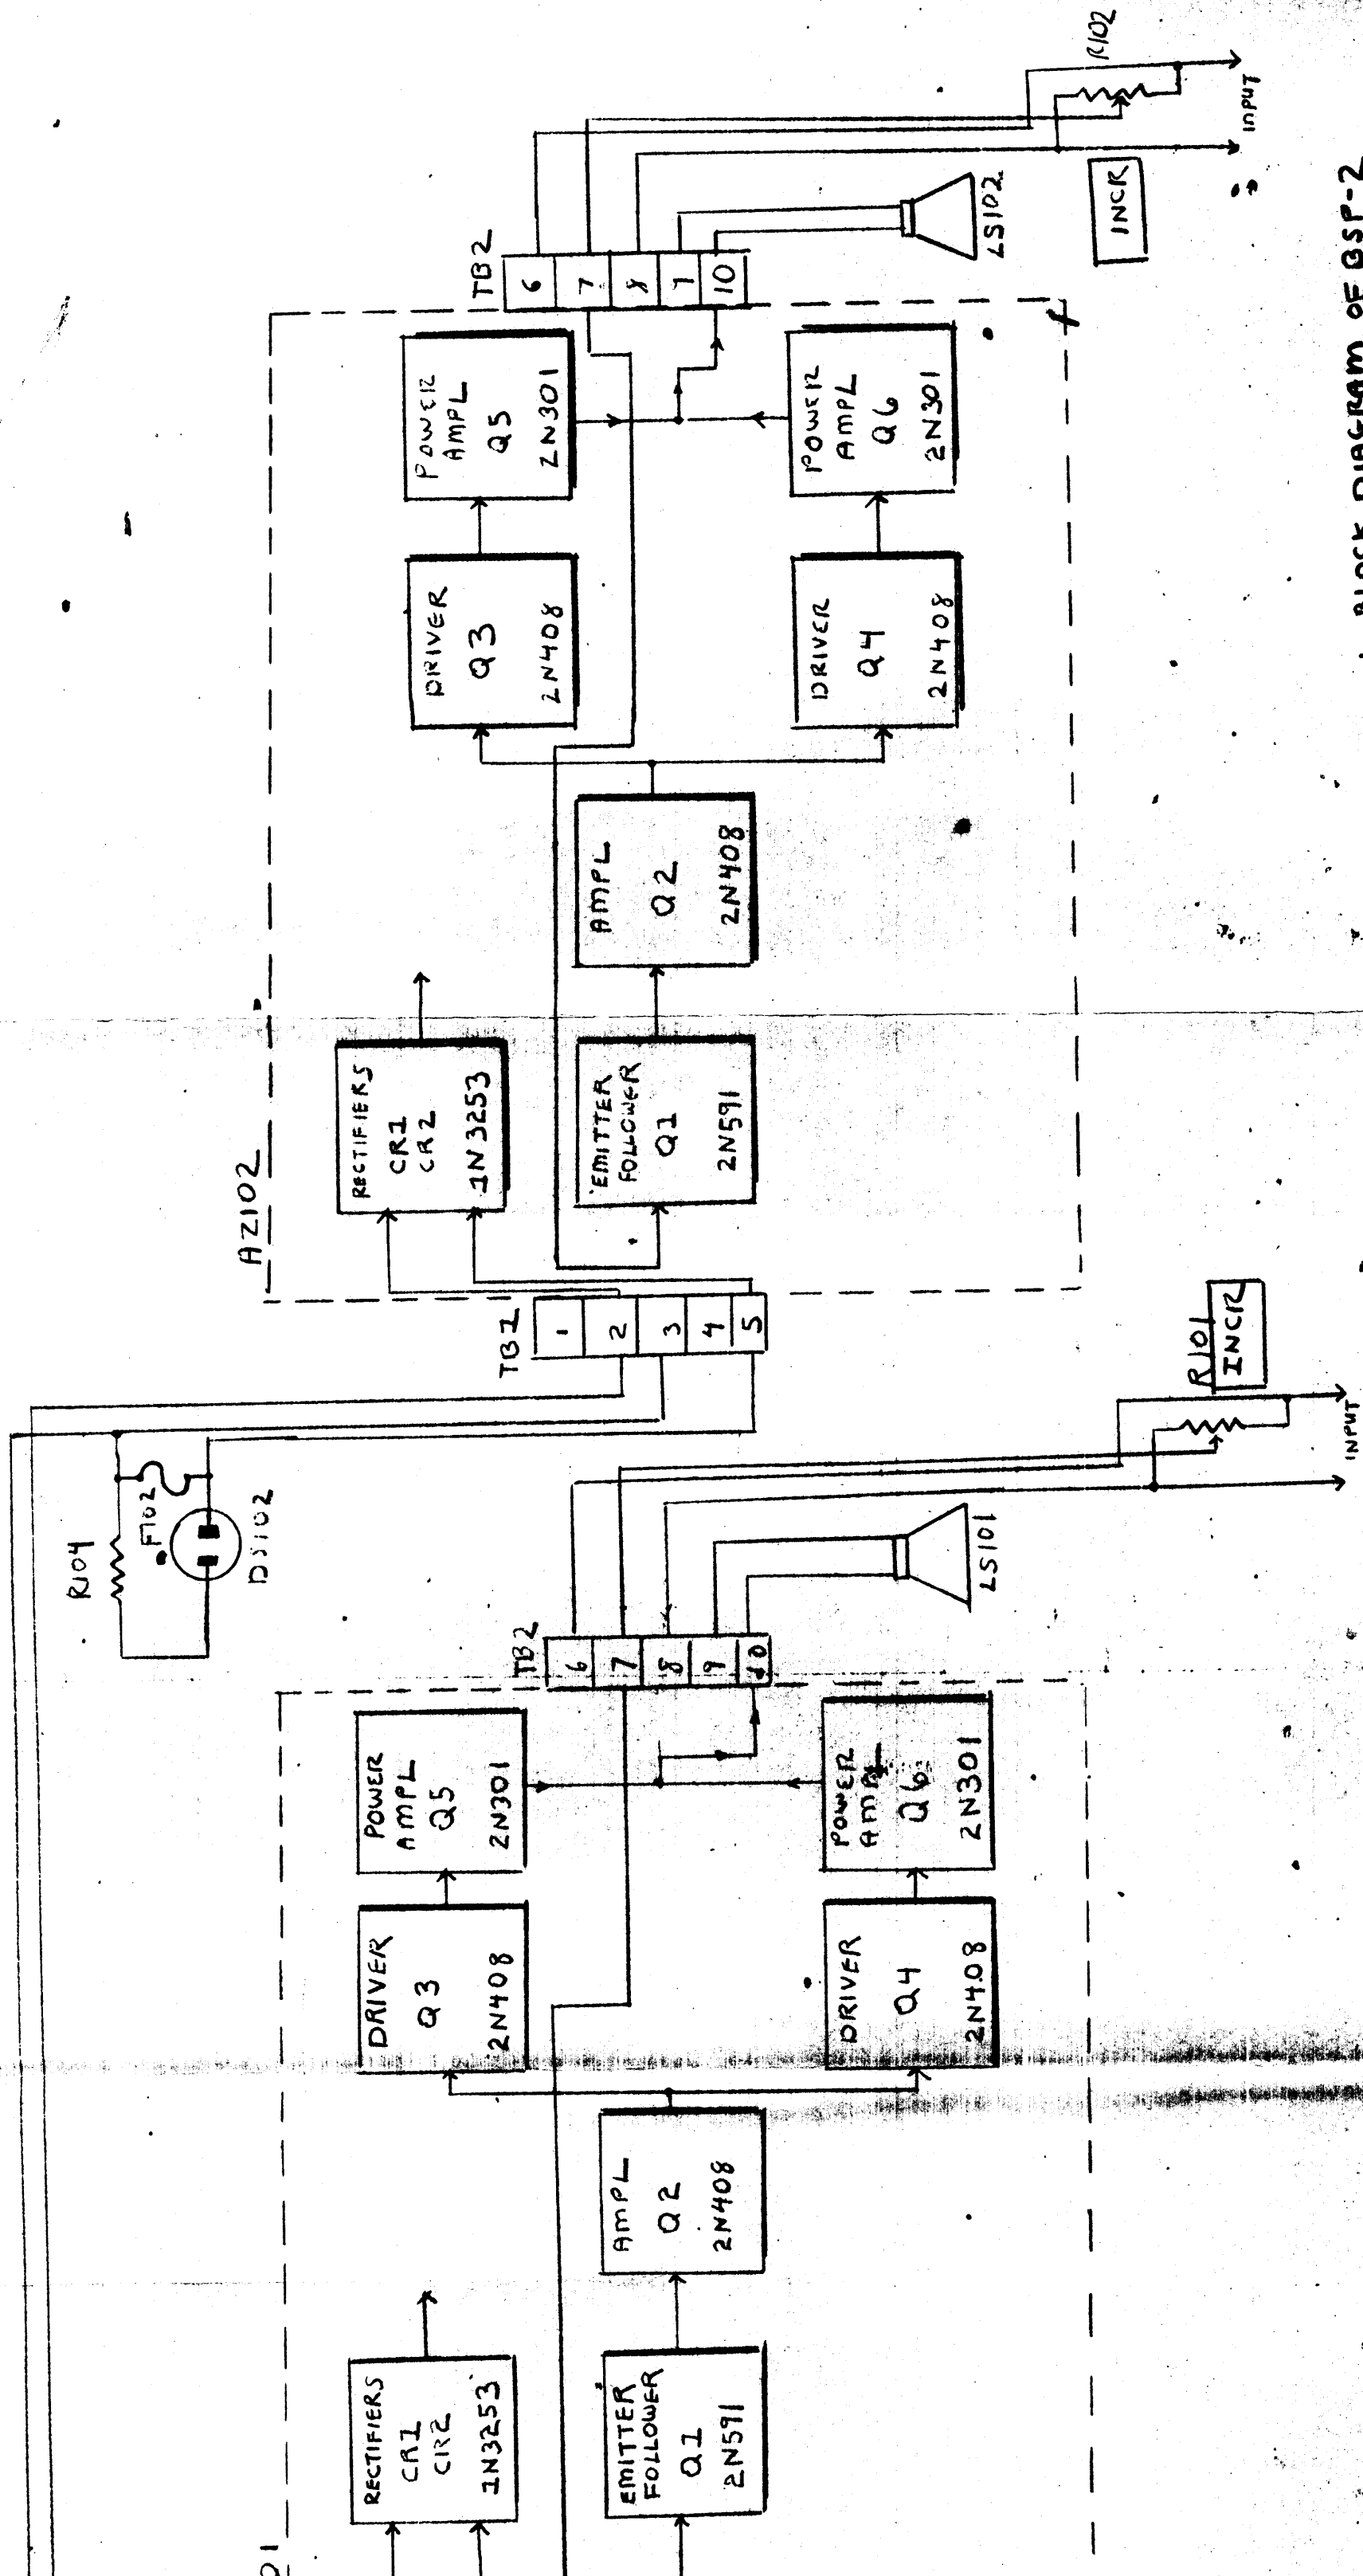

FIGURE 4-1. BLOCK DIAGRAM OF GSP-2
a. FUNCTIONAL DESCRIPTION. (See figure 4-1)
4-2 CIRCUIT ANALYSIS OF AMPLIFIER SUBASSEMBLIES (See figures 4-1, 8-1)